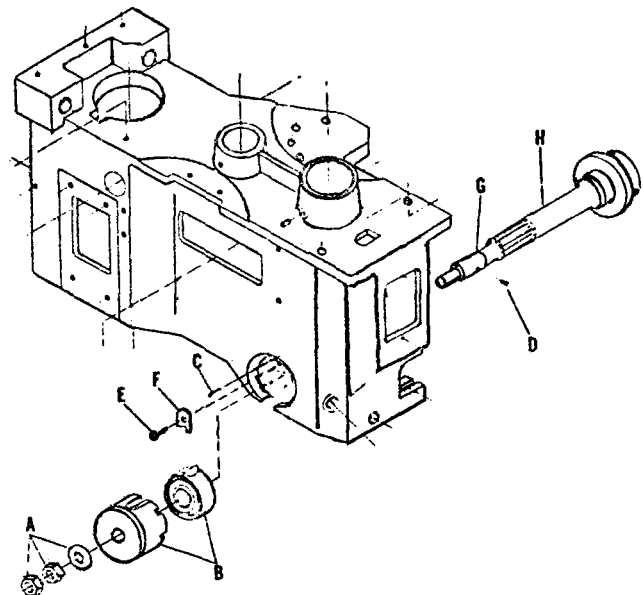

Fig 4 - Removing Spindles
1. Remove the two nuts and washer (A) Fig. 4.
2. Carefully pull out the return spring and housing (B) Fig. 4 about 1/4" until roll pin (C) disengages with the groove in the return spring housing and carefully rotate the return spring housing to release tension on the return spring or refer to the instructions on page 7 under ADJUSTING SPINDLE RETURN SPRING to release spring tension.
4. Loosen screw (E) Fig. 4 and move retainer (F) up out of the groove (G) in the pinion shaft.
5. Remove screw (D) Fig. 4, from pinion shaft and while holding the quill with your left hand, remove the pinion shaft (H) by pulling it straight out. The quill assembly can then be easily removed from the head casting.